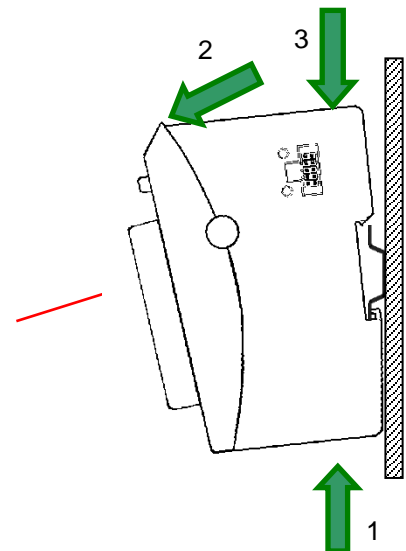

Figure6: Uninstalling a module
- Push down the unlock button (see Figure6) of the module that you wish to disconnect from the module to the left of it.